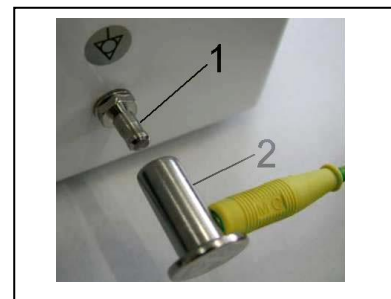

Fig. 12
- Connect the pin for equipotential bonding  $\varnothing$  6 mm (1) to the electrical circuit using the defined method under valid electrical engineering regulations. The socket for equipotential bonding (2) is an accessory and is not provided in the basic package. (Fig. 12)